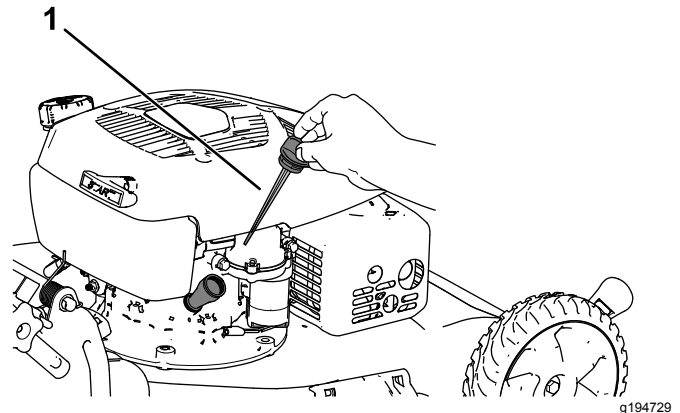

Figure 34
3. Remove the dipstick by rotating the cap counterclockwise and pulling it out (Figure 34).